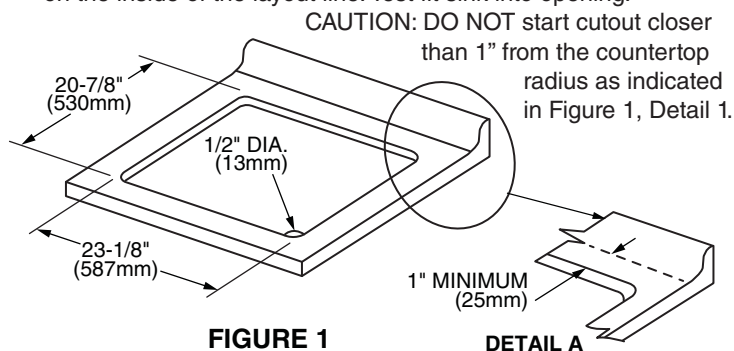

FIGURE 1
This sink is designed to fit into a 23-1/8" x 20-7/8" countertop cutout. Determine the desired location of your sink and lay out the cutout dimensions as shown in Figure 1. Drill four (4) 1/2" diameter holes at each corner of the cutout and make a saw cut on the inside of the layout line. Test fit sink into opening.